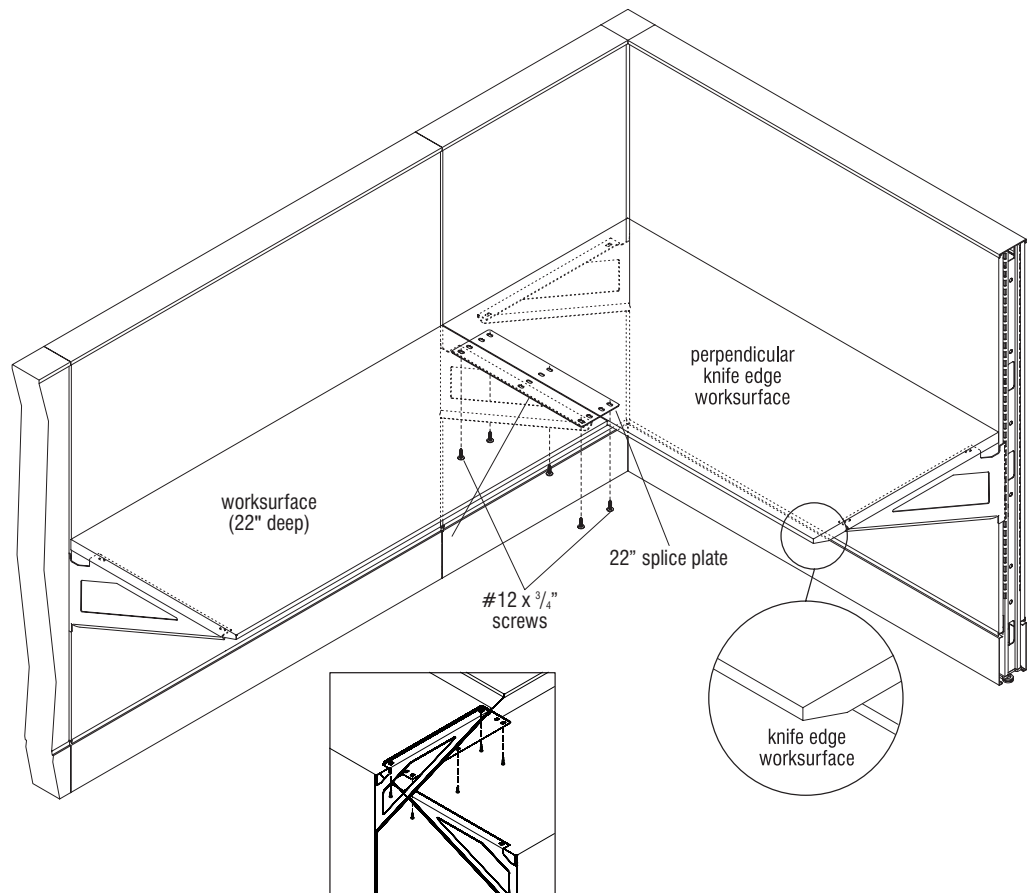

Figure 5 - Perpendicular 22-24" Deep Worksurface Connections with Knife Edge
3. To keep worksurfaces level, install a small splice plate between worksurfaces as illustrated. Position the splice plate centered under the installed worksurfaces and use mounting holes as template, then mark mounting hole locations. Pre-drill 1/8" diameter mounting holes to a depth of 1/2" only, taking care to not drill too deep which may damage the worksurface (Figure 5).
4. Install small splice plate to underside of worksurfaces using four #12 x 3/4" screws. Take care to not over-tighten screws (Figure 5).
3. Where the two adjoining worksurfaces meet at the cantilever bracket, slide a 22" splice plate between the cantilever and the pair of worksurfaces. Align the outermost mounting holes of the splice plate to the mounting holes of the cantilever bracket such that most of the 22" splice plate extends beneath the adjoining knife edge worksurface that it must support. Secure with two #12 x $\frac{3}{4}$ " screws through the cantilever bracket, the 22" splice plate and into the worksurface. Take care to not over-tighten screws (Figure 5).
4. Using the far-side holes of the 22" splice plate as a template under the adjoining surface, take care to drill three $\frac{1}{8}$ " diameter holes to not more than $\frac{1}{2}$ " deep in the underside of the worksurface at the mounting hole locations. Insert and tighten three #12 x $\frac{3}{4}$ " screws. Take care to not over-tighten screws (Figure 5).
5. Tighten all remaining screws to secure cantilever brackets to underside of worksurfaces. Take care to not over-tighten screws (Figure 5).